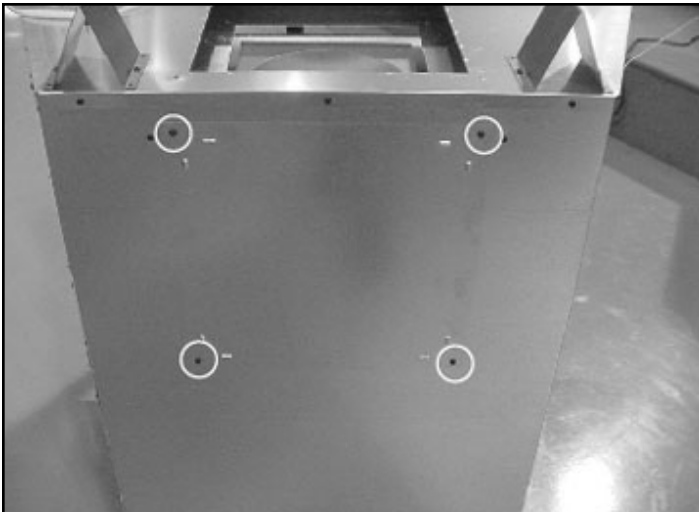
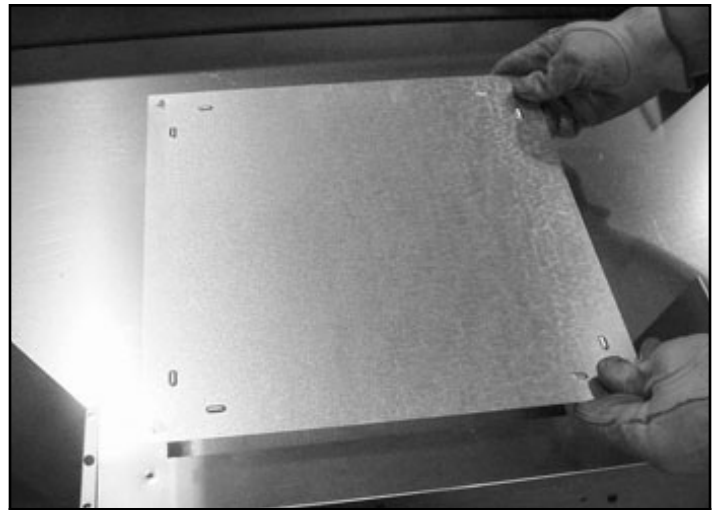
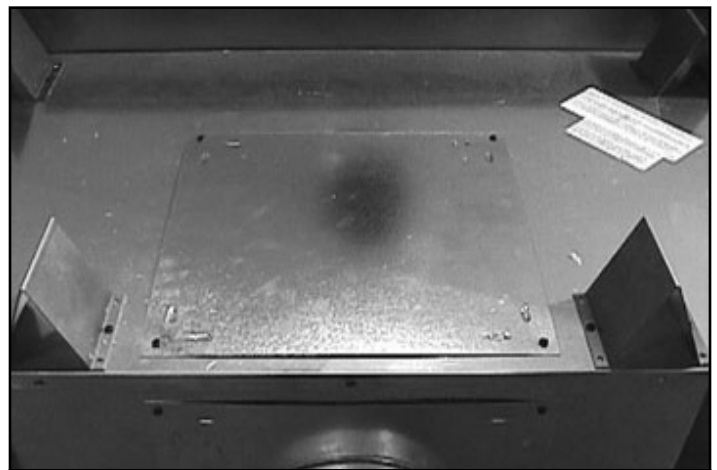

Figure 7.6 Outer Shell Cover
Figure 7.15 Place Cover Plate on Top of Appliance
Figure 7.16 Screw Cover into Place
- Remove four screws holding outer shell cover. See Figure 7.6. Remove outer shell cover and set aside.
- Locate outer shell cover removed in the sixth step (Figure 7.6). Place the cover on top of appliance. See Figure 7.15. Replace four screws to hold plate in place. See Figure 7.16.